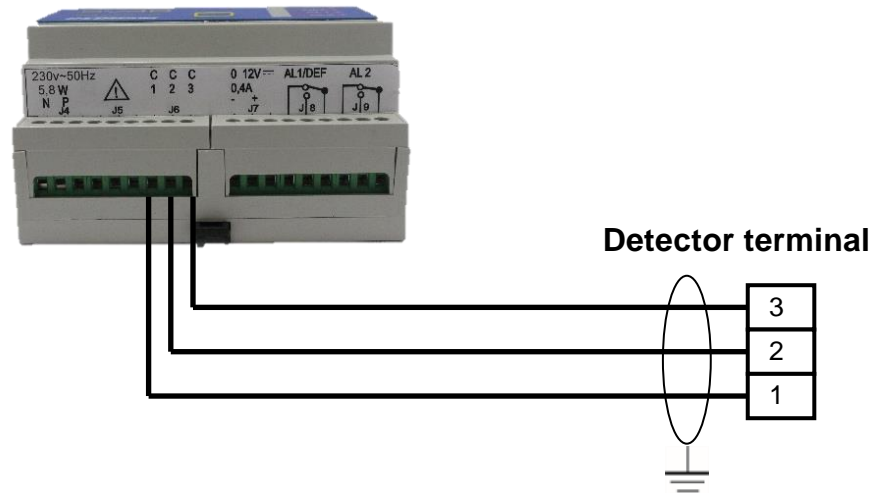

Figure 4 : Detector connections
- Relay 1 (REL 1), which is in mode, corresponds to the first gas alarm threshold and to the "FAULT" alarm. This relay is equipped with SPDT contacts available on the SV 4B terminal block (Item 3, Figure 4).
- Relay 2 (REL 2), which is "negative safety" mode, corresponds to the second gas threshold only. This relay is also equipped with SPDT contacts available on the SV 4B terminal block (item 4, Figure 4).